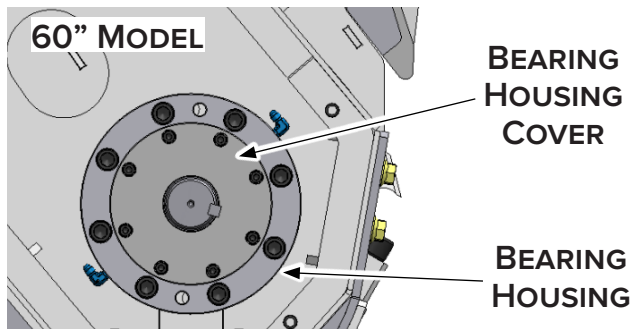
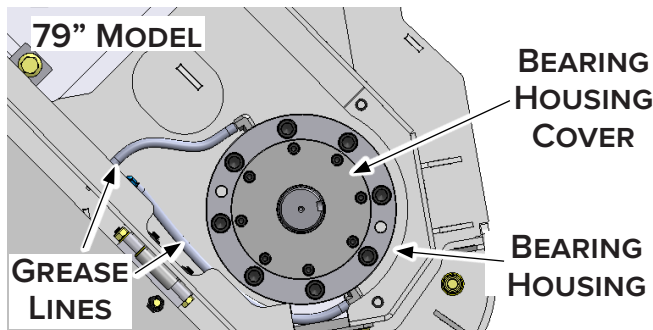

Figure 22
Figure 23
- Remove the bearing housing cover plate shaft seal. See Figure 22 and Figure 23 on page 36.